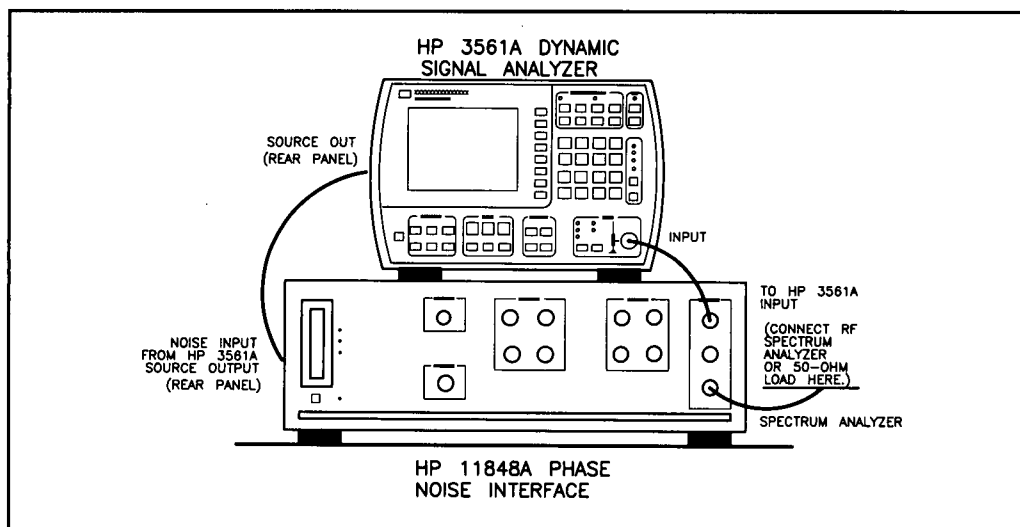

Figure 27. First Option 2 Calibration Setup
7. Connect the cables as prompted on the display and as shown in Figure 27.
instructs you to connect the instruments as shown in Figure 27 (the same as in step 7).